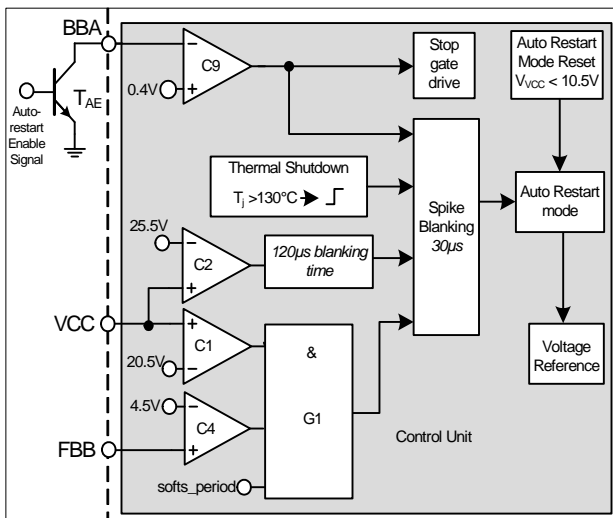

Figure 29 Vcc OVP, OTP, external protection enable
Vcc OVP (1) condition is when VVCC voltage is > 20.5V, VFBB voltage is > 4.5V and during soft start period, the IC enters into odd skip Auto Restart Mode. This condition likely happens during start up at open loop fault. (Figure 29).
Vcc OVP (2) condition is when VVCC voltage is > 25.5V, the IC enters into odd skip Auto Restart Mode (Figure 29).
The over temperature protection OTP is sensed inside the controller IC. The Thermal Shutdown block keeps on monitoring the junction temperature of the controller. After detecting a junction temperature higher than 130°C, the IC will enter into the non switch Auto Restart mode. The F3R80 has also implemented with a 50°C hysteresis. That means the IC can only be recovered when the controller junction temperature is dropped 50°C lower than the over temperature trigger point (Figure 29).
base pin of an external transistor, TAE at the BBA pin. When this function is enabled, it will enter into the non switch auto restart mode. The gate drive is stopped and there is no switching pulse before it is recovered (Figure 29).